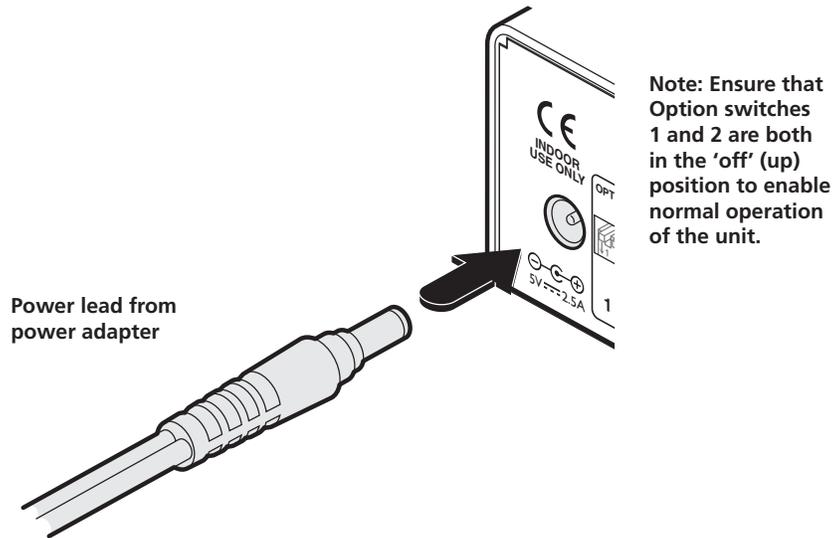

Figure 3-15. Connect the power adapter to the rear panel power socket.
- 1 Attach the output lead from the power adapter to the 5V socket on the rear panel of the unit. See Figure 3-15.